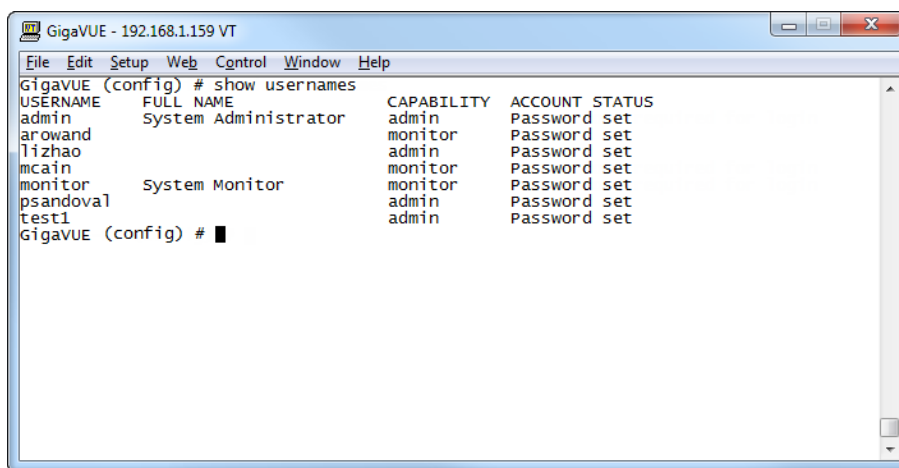

Figure 18 Reviewing the User List
2. Once you have configured these basic user accounts, use the **show usernames** command to review your settings. Figure 18 Reviewing the User List shows some sample **show usernames** output after several users have been added.